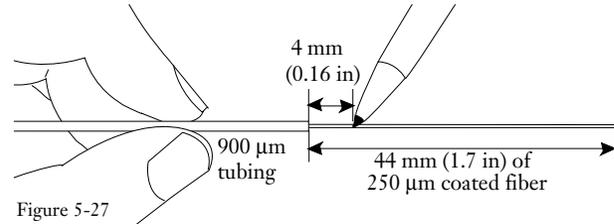

Figure 5-27
**5.6-3** Measure and mark the 250  $\mu\text{m}$ -coated fiber 4 mm from the end of the fan-out tube (Figure 5-27).